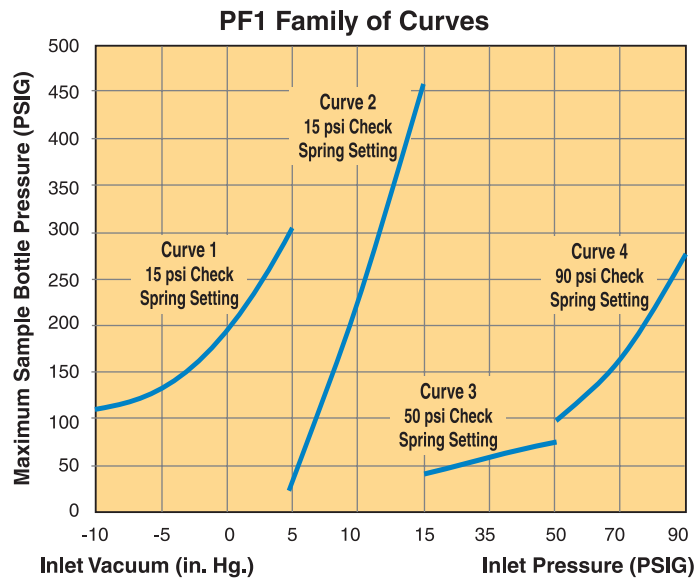

Figure 17: PF1 Family of Curves
A. PF1 Pump Style (refer to Figure 17)